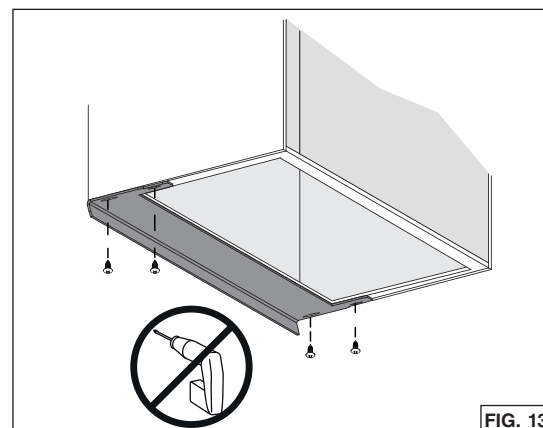

FIG. 13
8. There are 7 different sizes of optional fillers (sold separately) designed to fit up to 15-in. depth cabinets (for BBN1243SS unit: HADTBN24, for BBN1303SS: HADTBN30). Choose the filler that fits better to cover the back bottom edge of the cabinet. Use 4 no. 6 x 1/2" truss head wood screws (included in the optional kit) to mount it (FIG. 13).